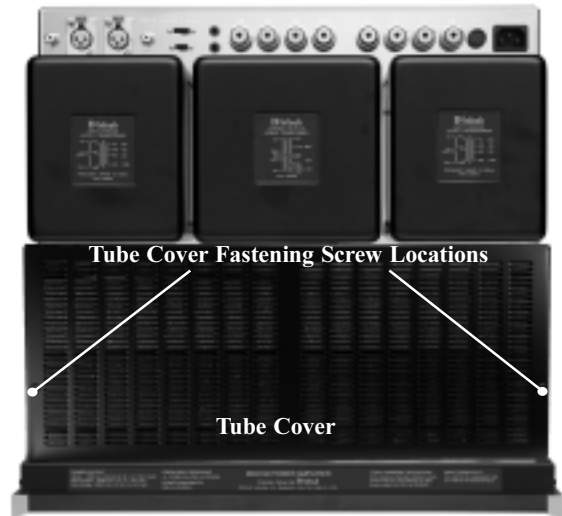

Figure 1
2. Using an appropriate screwdriver, rotate the two Tube Cover Screws counterclockwise, for approximately five turns, until the Tube Cover can be removed from the MC2102 Chassis and the screws are still attached to the cover. Refer to figure 1.